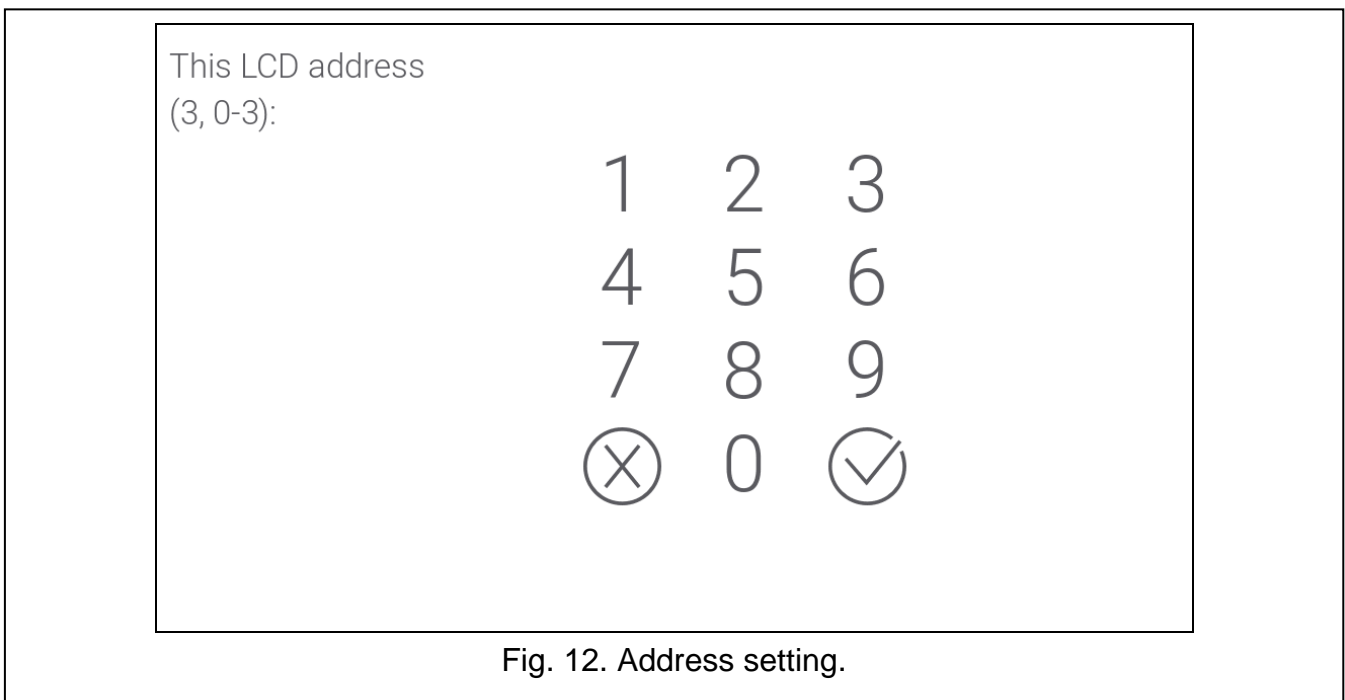

Fig. 12. Address setting.
1. Tap   . The "20.Kpd.address." function will start. All wired keypads will display the message: "This LCD address (n, 0-3)" [n - keypad address; 0-3 – range of supported addresses] (Fig. 12).